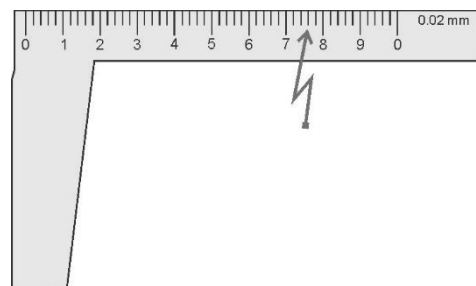

Figure 4 The movable jaw of the caliper with the engraved vernier scale indicated on it.
- 3.3. **Figure 4** shows the movable jaw of the vernier caliper again. On it is an engraved scale where each small division represents 0.02 mm. We say that the least count or resolution of the caliper is 0.02 mm. The line to the right of the 0 line is thus the 0.02 mm line. To its right is the 0.04 mm line, then the 0.06 mm followed by the 0.08 and the 0.10 mm with a 1 digit indicated next to it. What vernier line is the arrow pointing to on the scale in **figure 4**?